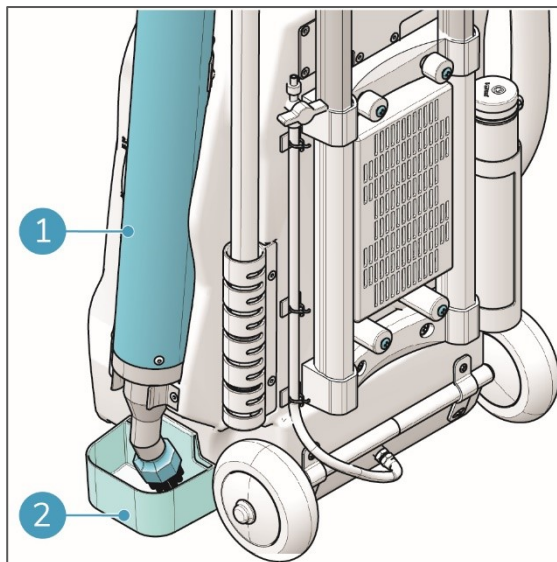

Figure 25
3. Make sure the drip tray (fig 25, pos 2) is attached to the machine.
4. Make sure the steam lance (fig 25, pos 1) is in the holder.
14. Clean the drip tray (fig 25, pos 2).